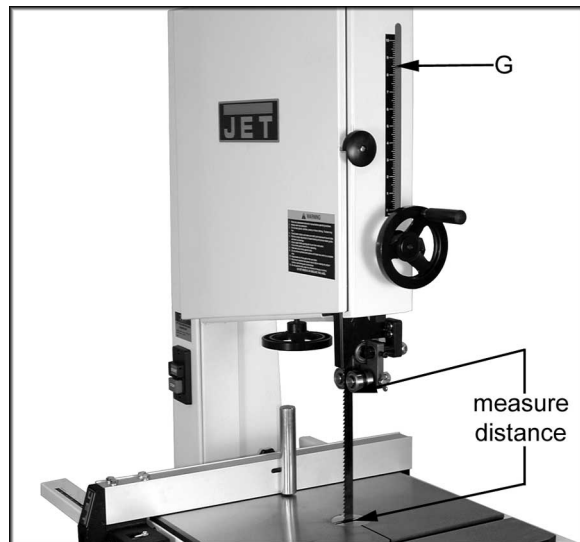

Figure 15
3. Measure from the table top to the bottom of the bearing guides, Figure 15.
4. Set the indicator to this measurement on the height scale. Grasp the end of the indicator (G, Figure 15) between your finger, and thumb. Move the indicator into position.